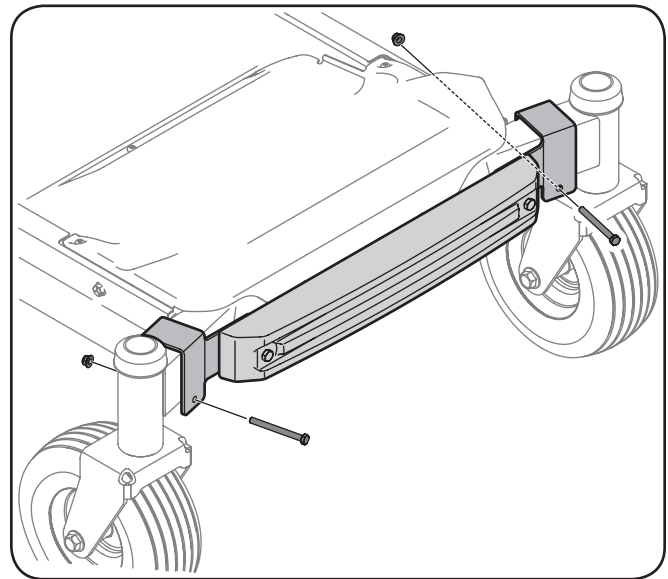

Figure 4-25
2. Attach the weight bar assembly to the front axle with a 3 1/4-inch (710-3056) screw and (712-04063) flange nut from hardware pack 689-00325 on the left side. Repeat on the right side. Do not fully tighten at this time. See Figure 4-25.